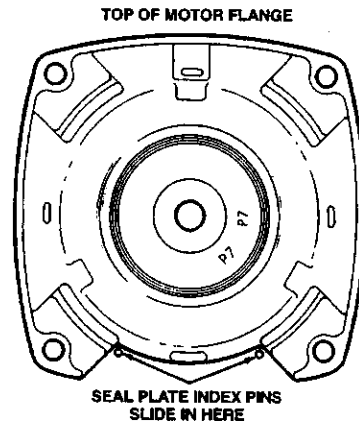

Figure 10A
- F. Reassemble seal plate to motor flange. BE SURE it is right side up; index pins should be down; seal plate is marked at top. See Figures 10A and 10B.